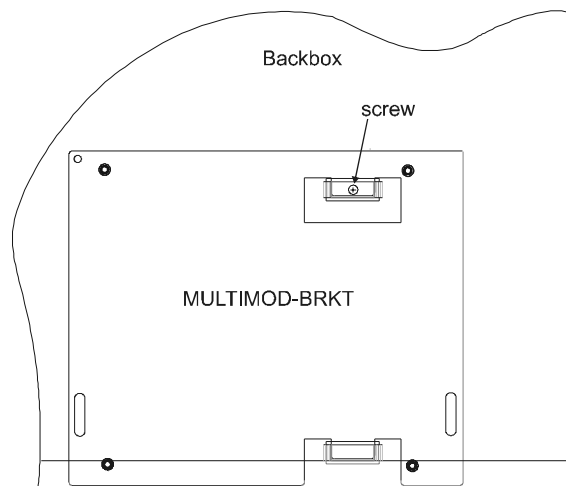

Figure 2
2. Slide the bracket down with tabs going under embossed protrusions and secure the MULTIMOD-BRKT mounting bracket to the backbox by installing the supplied self-tapping screw into the top embossed protrusion/tab as illustrated in Figure 2.